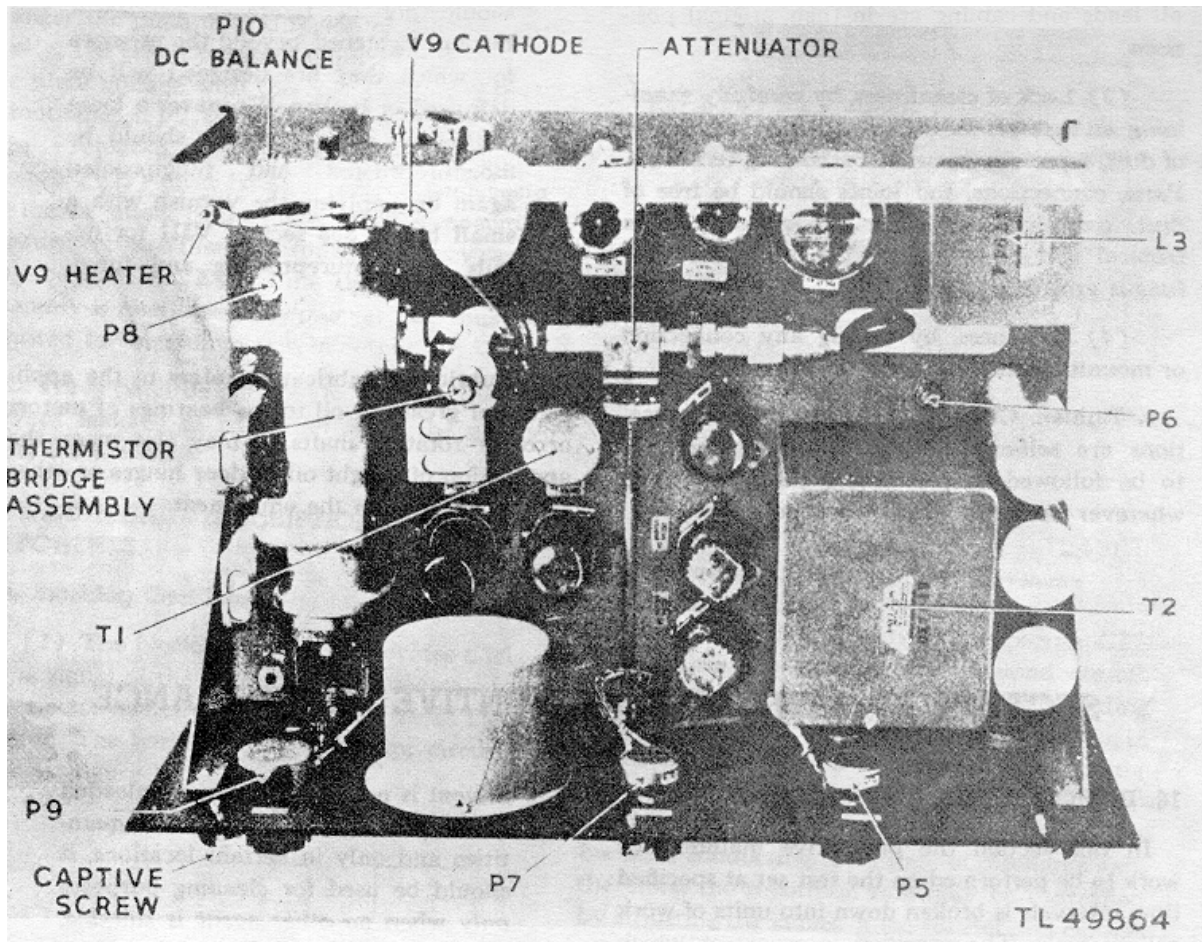

Figure 10. Top of chassis
21. ITEM 2, TOP OF CHASSIS (fig. 10).